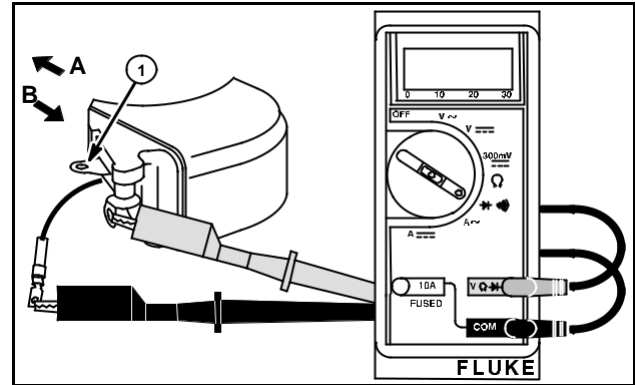
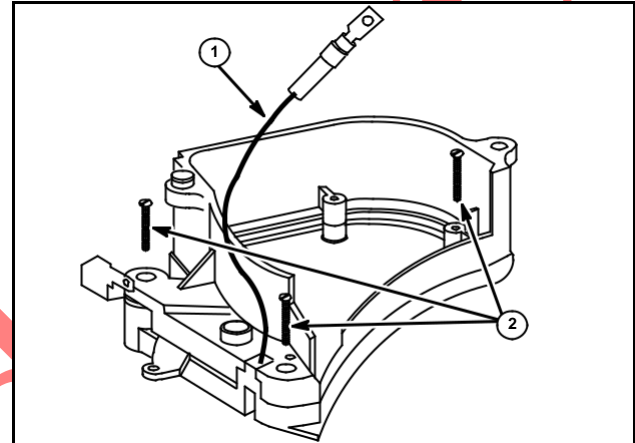

Fig. 12
Fig. 13
4. Test switch as shown in Fig. 12. With switch lever in "RUN" (A) or "STOP" (brake) (B) position, there should be NO continuity.
5. Place lever (1) in "START" position. Meter should indicate a continuity reading.
6. If there is NO continuity in "START" position, the wire and brush assembly (1) may be serviced as shown in Figs. 13 and 14, by removing 3 screws (2) and the switch cover assembly.